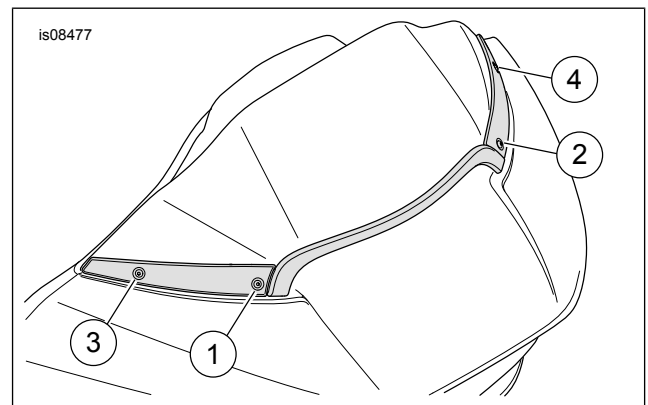

Figure 2. Screw Tightening Sequence
10. See Figure 2. Tighten all four fasteners to 0.9–1.35 N-m (8–12 in-lbs), following the tightening sequence shown in Figure 2.